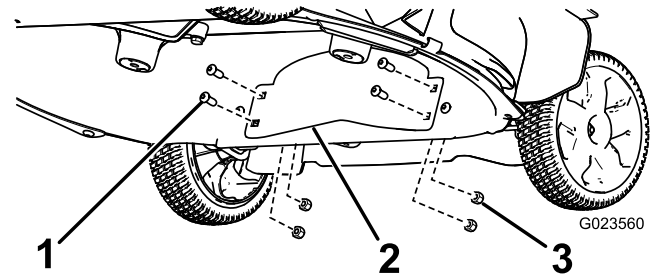

Figure 4
1. Remove the 4 bolts and 4 nuts in the front of the machine housing (Figure 4).
2. Install the baffle with the 4 bolts and 4 nuts that you removed in step 1 (Figure 4).